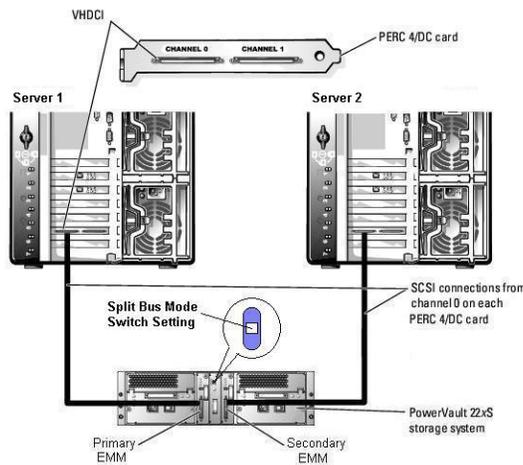
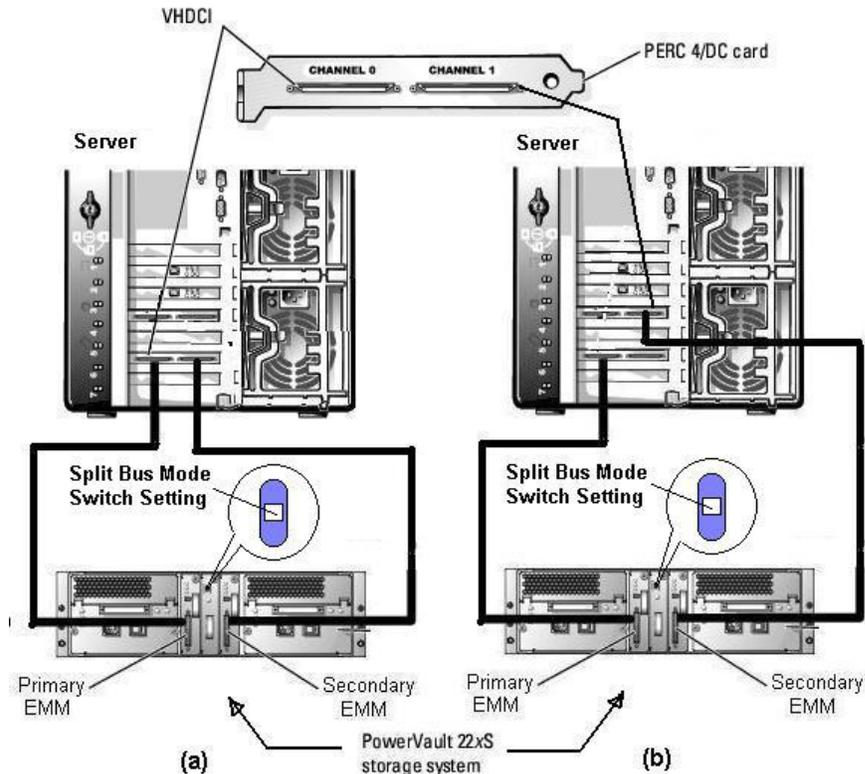

Figure 4-2 Split Bus Cabling to Two Host System
Figure 4-3 Split Bus Cabling Options to a Single Host System, (a) Same Adapter, (b) Different Adapters
This topology splits the PV22xS into two halves, essentially providing two independent, electrically isolated, SCSI busses capable of supporting up to seven (7) HDD on each bus. Because the two busses are electrically isolated, this allows simultaneous SCSI transactions on each bus. Two cables are required, one connected to each EMM. The cables can attach to two host systems (Figure 4-2) running different applications and operate completely independent from one another, or they can be connected to two SCSI channels on a single host system (Figure 4-3) to increase performance by splitting the I/O traffic between two different physical data paths. In either case, it is highly recommended that both halves of the PV22xS be connected to the same type of SCSI RAID controllers (e.g. PERC4 and PERC4 or PERC3 and PERC3). The primary EMM monitors the state of the seven HDD in slots labeled 0 thru 5, and 8. The secondary EMM monitors the state of the seven HDD in slots labeled 9 thru 15. SES management is provided by both EMM modules to their respective SCSI hosts. SCSI failures on one bus will not affect the other bus. Power and enclosure cooling, however, are shared. Power disruptions (e.g., power short on a HDD) will affect both busses equally.